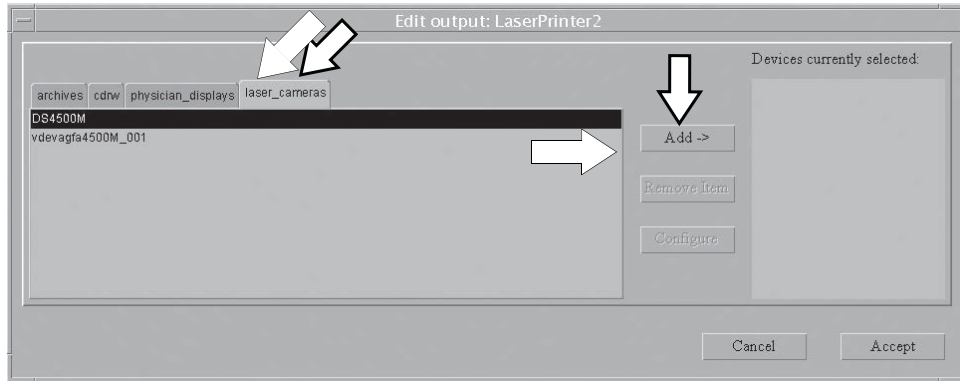

Figure 3-56: Adding Devices
6. Select the device you want to use (Figure 3-56).
9. Select the device you want to use (Figure 3-56).